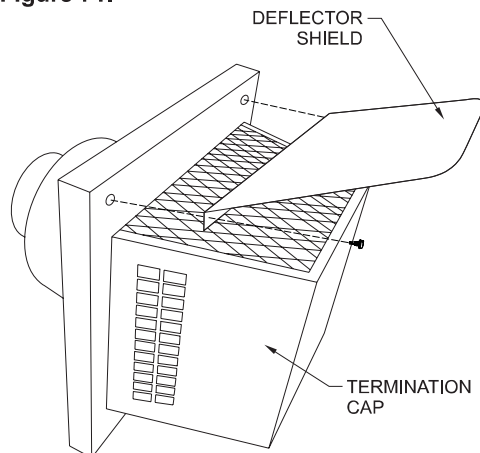

Figure 71
- Secure the termination cap to the house exterior using four 1/8 x 3 inch long screws. Be sure to install the Deflector Shield with the two screws at the top of the termination base. See Figure 71.